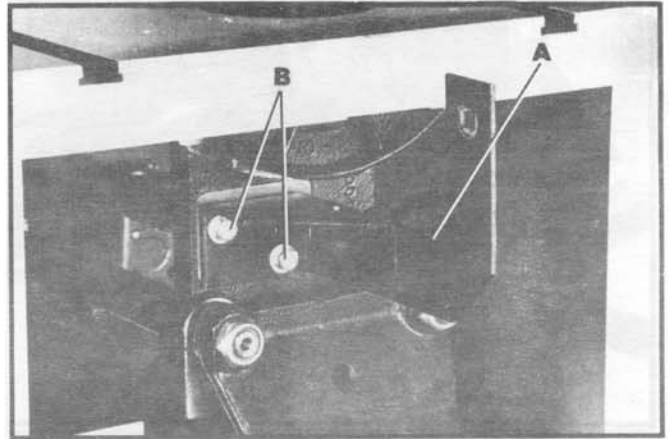

Fig. 20
1. Fasten the rear splitter mounting bracket (A) Fig. 20, to the rear trunnion using the two 3/4" hex head screws (B), lockwashers and flat washers. Do not completely tighten the two screws (B) at this time.